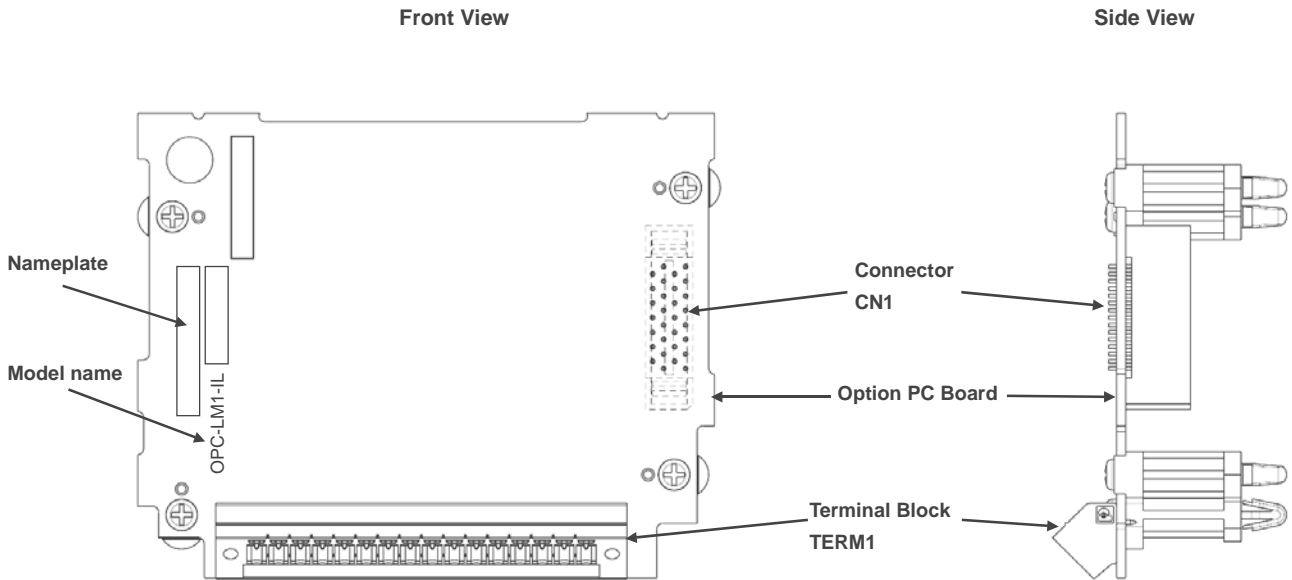

Figure1.1 Product Appearance.
- (1) The option card is contained in the package.
- (2) The option card is not damaged during transportation-no defective electronic devices, dents or warps.
- (3) The model name "OPC-LM1-IL" is printed on the option card. (See Figure 1.1)